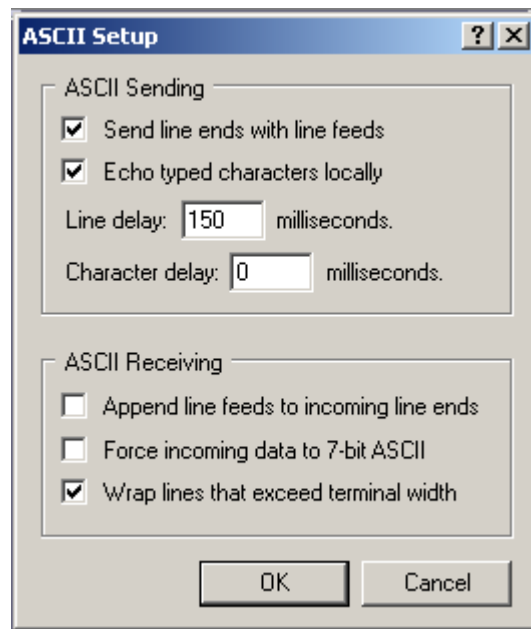

Figure 5. Recommended Settings in ASCII Setup.
7. Select the check boxes **Send line ends with line feeds** and **Echo typed characters locally**. Also, configure a line delay of **150** milliseconds. These settings are shown in Figure 5. Press the **OK** button twice to save changes and exit the menus.